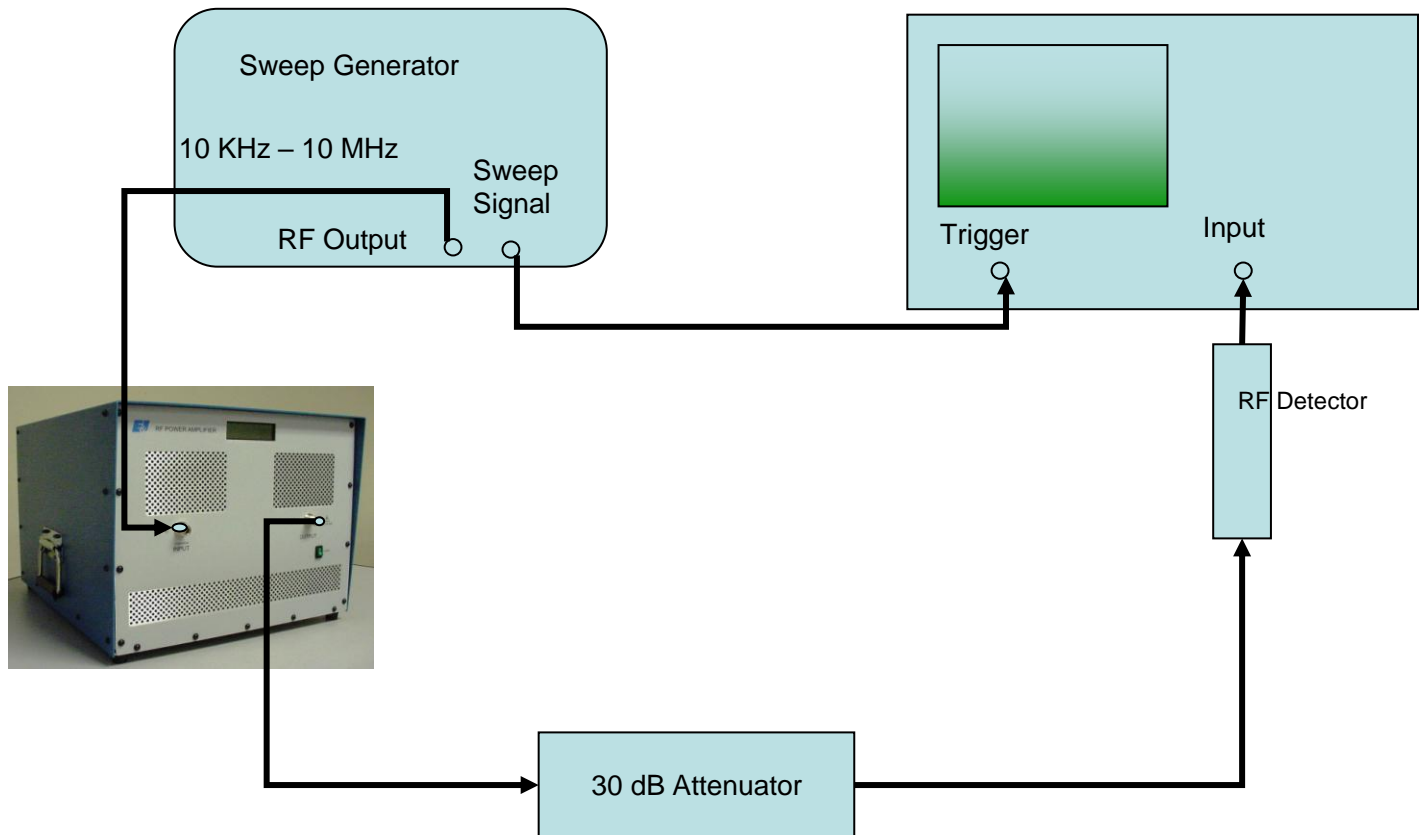

Figure 4-1. Gain Measurement
#### 2. Connect the equipment as shown in Figure 4-1, then proceed as follows:
- g) Reconnect the 2400L into the test set-up of Figure 4-1.